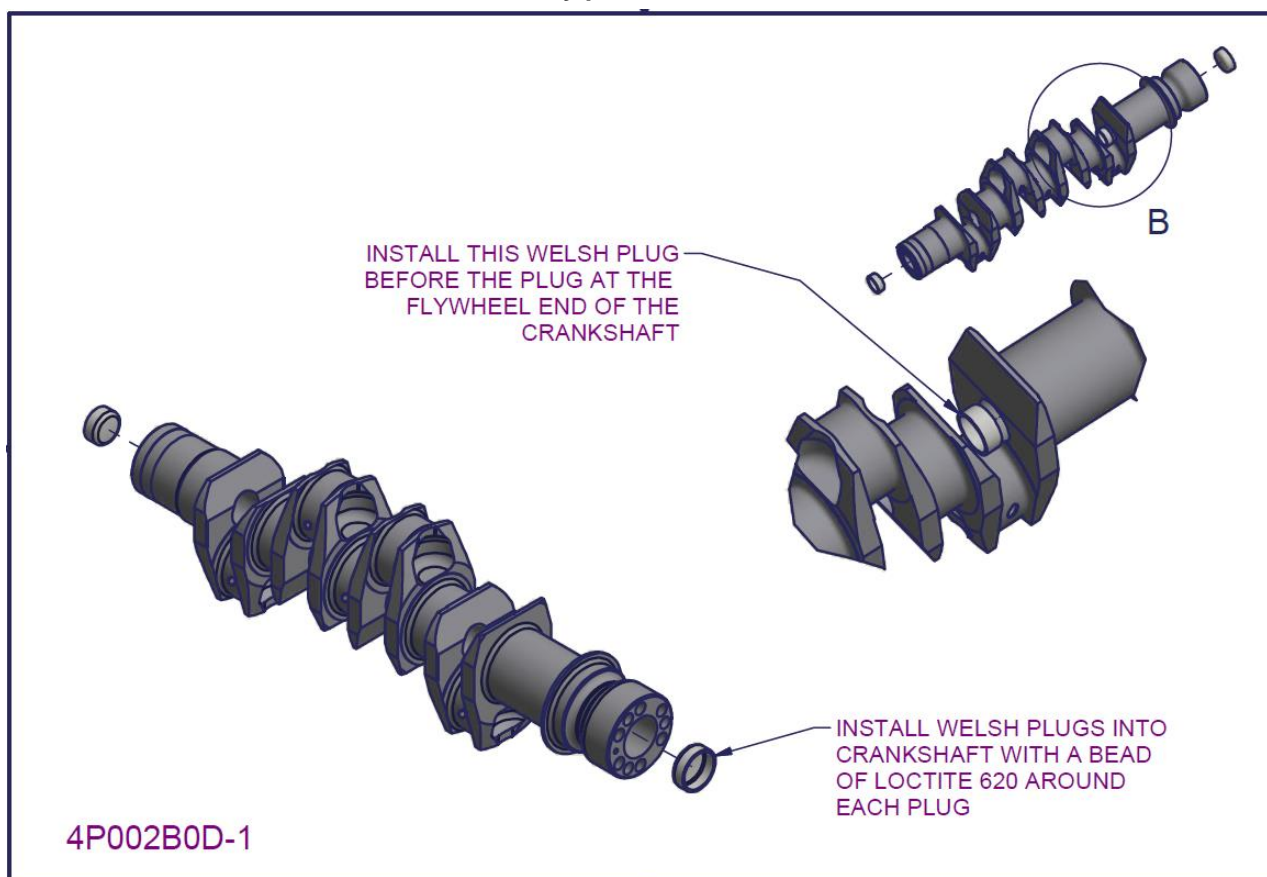

Figure 36 – 2200/3300 crankshaft subassembly 1
- Install the first welsh plug in the hole behind the thrust faces (as shown in Figure 36). Using a long steel driving bar inserted through from the flywheel end and driving the plug home into the hole with a hammer.